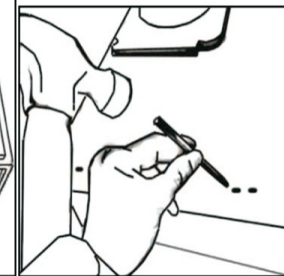

Figure 2
- Puncture the knockout holes (for mounting under the cabinet) on the hood as shown in Figure 2.